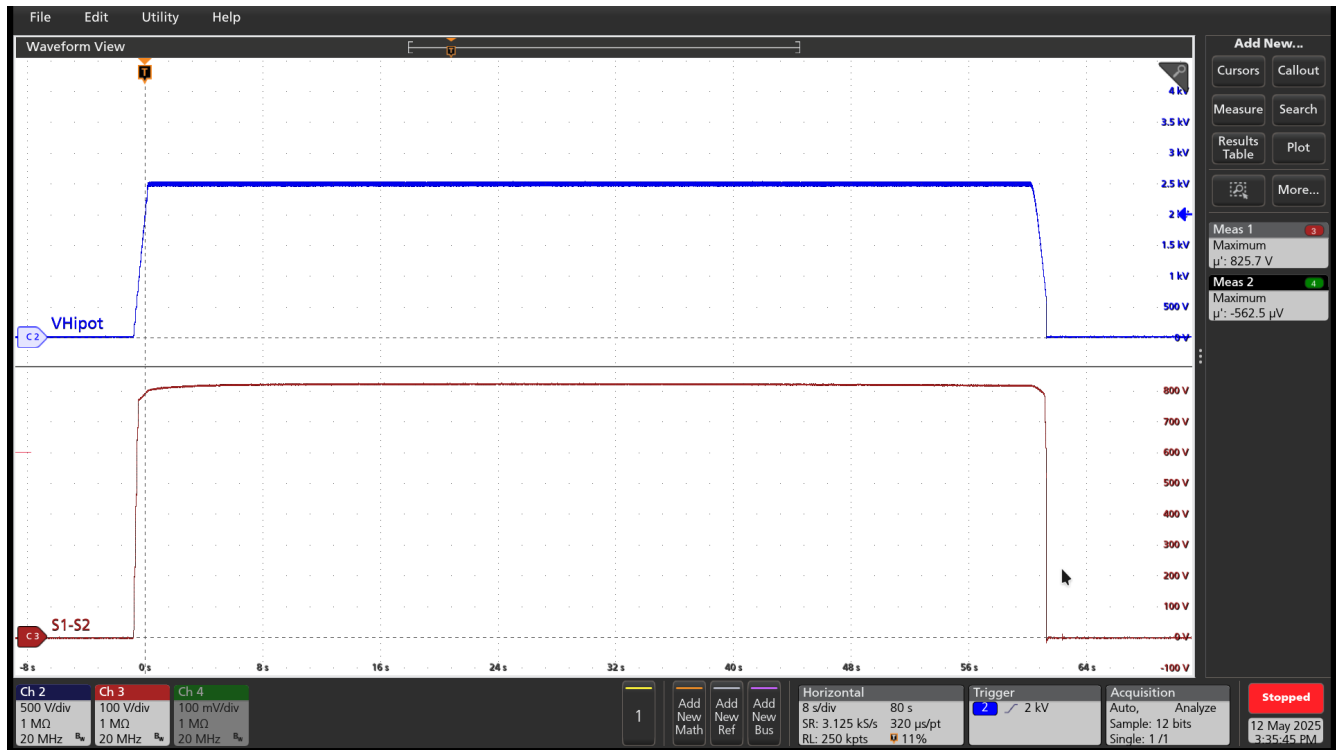

Figure 3-3. Secondary Sense (S1) and Voltage Sense (S2) Test Points at HV = 2500V
Figure 3-3 shows two test points using the following channels settings.
• Updated <a href="#">Figure 3-3</a> .....	<a href="#">6</a>